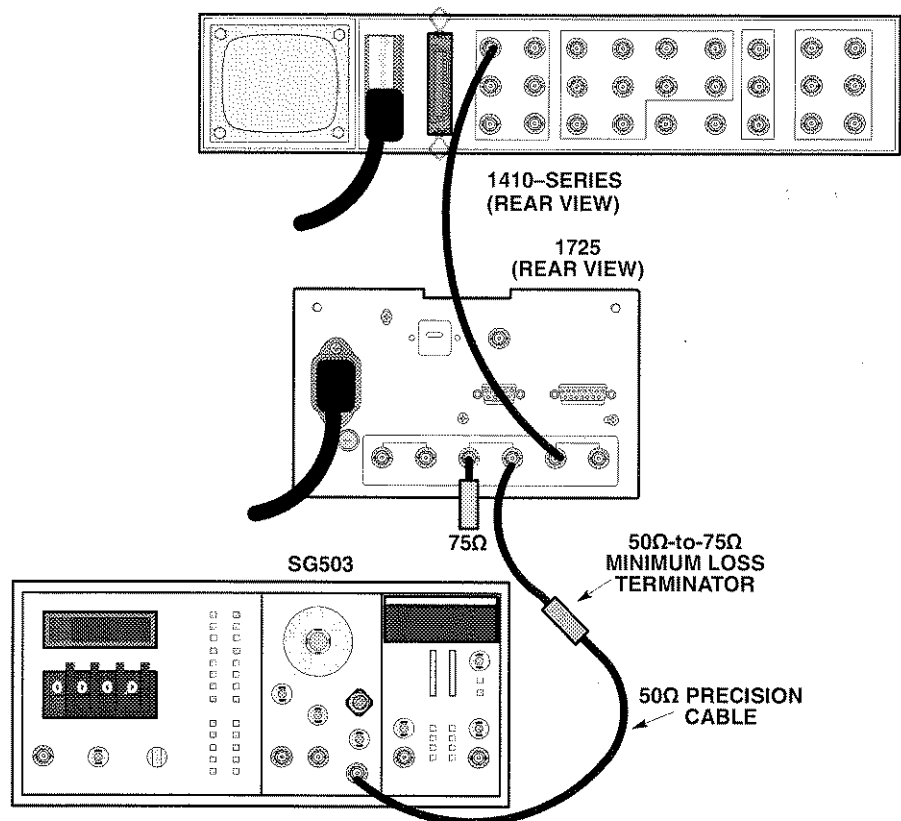

Figure 5-4: Initial connections for checking bandwidth
- b. Connect the Leveled Sine wave Generator through the Precision 50 Ω cable and 50 Ω to 75 Ω Minimum-Loss Attenuator to the CH-B INPUT. See Figure 5-4.